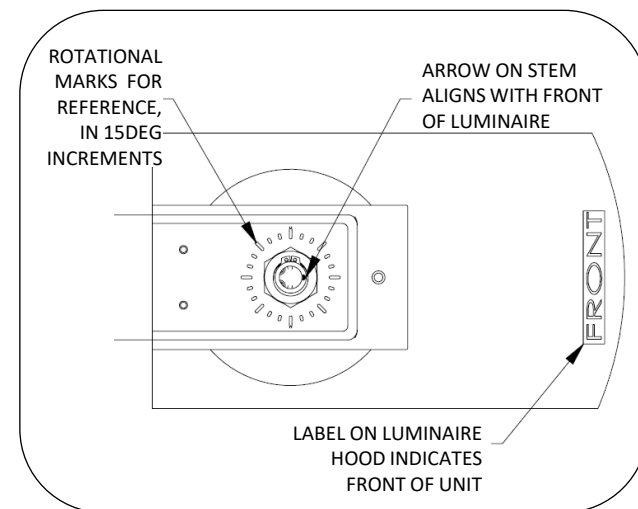

Fig. 7 – ADJUST TWIST ROTATION (AREA AND ACCENT LUMINAIRES)
2. Loosen the nut enough to allow rotation of the luminaire hood. Do not remove nut. Indicators on arm, see Fig. 7, are shown in 15deg increments for reference. Rotate luminaire to desired location and tighten nut to 75 ft-lbs when in position.